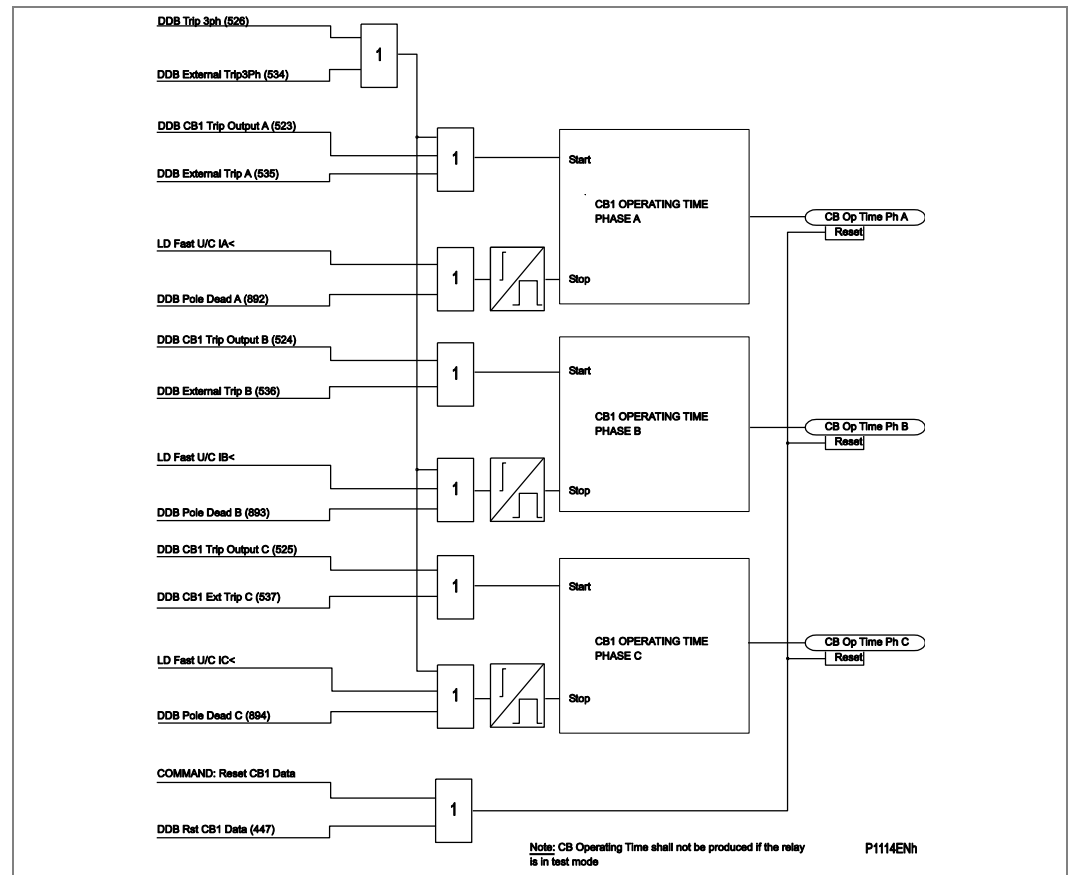

Figure 132 - CB1 condition monitoring – operation time
- Figure 132 - CB1 condition monitoring – operation time